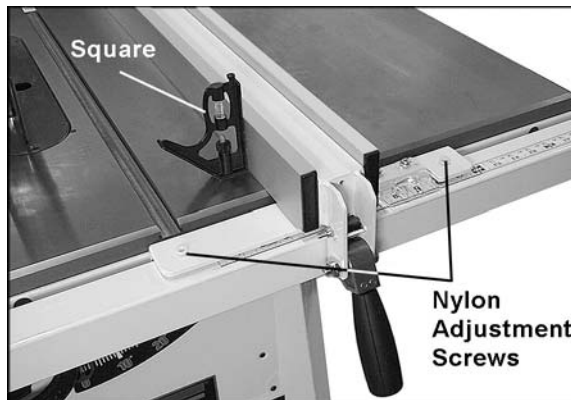

Figure 13
- If the front of the fence needs adjusting, rotate the two nylon adjustment screws *an equal amount* (see Figure 13).
- Place a square on the table and against the side of the fence, as shown in Figure 13. Lock the fence down with the handle. The fence should be 90° to the table.